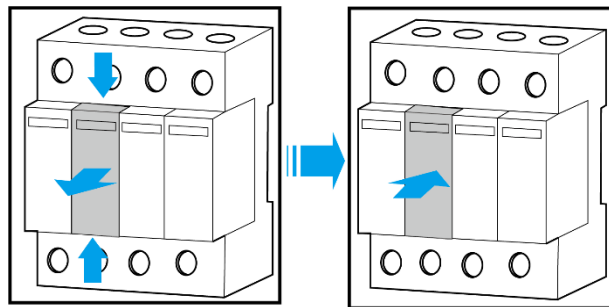

Figure 10-1 Replacing the Surge Protection Device
- Step 4 Install the new surge protection device, as shown in Figure 10-1.